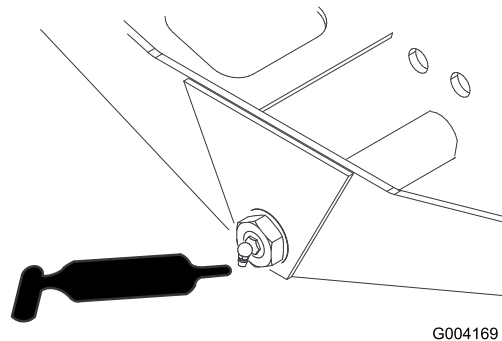

Figure 34
- Axle-steering pivot (1) (Figure 34)